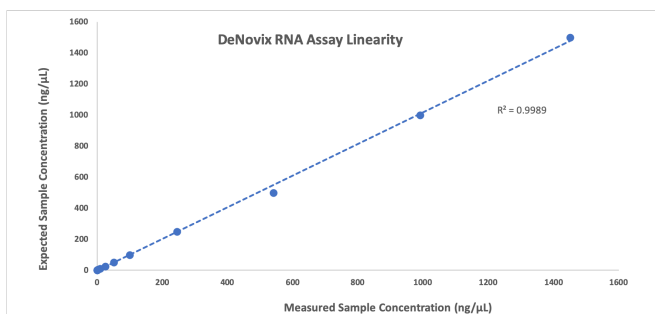

Fig. 2. *E. coli* total RNA measured using the DeNovix RNA Assay on a DS-11 FX fluorometer.
3. Plot the fluorescence RFU values for the RNA standards on the y-axis and ng/well RNA on the x-axis, and fit a trend line (Figure 2) through these points to generate a standard curve with a y-intercept = 0.